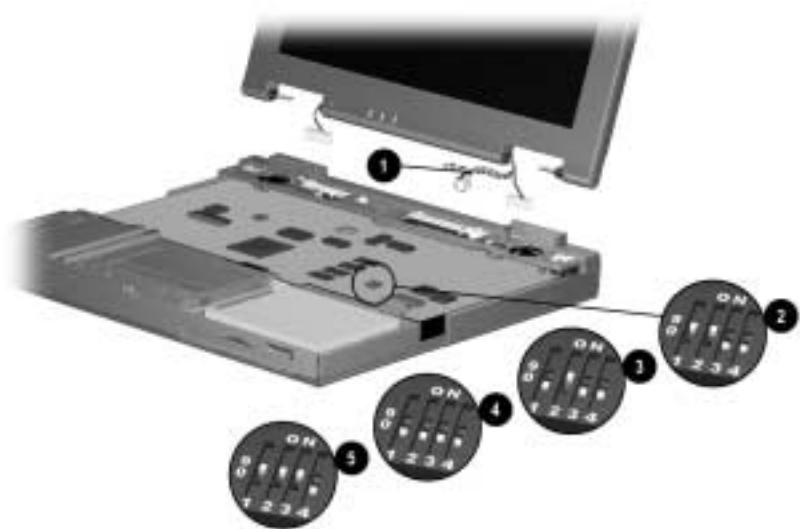

Figure 5-28. *Setting the Display DIP Switches*
1. Locate the part number label on the display microphone cable ❶ (Figure 5-28).
2. Part numbers 541566850001/176038-001, 541566931001/212897-001, and 413000020183/222715-001 correspond to the 12.1-inch, TFT display assemblies. If these part numbers are on the label, make sure the display DIP switch on the system board is set according to setting ❷.